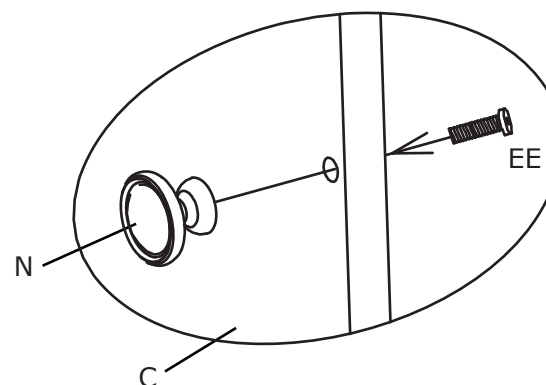

Figure 8
8. Attach the door handle (N) to the door panel (C) with the bolt (EE) using a Phillips screwdriver (NOT included), (see Figure 8).